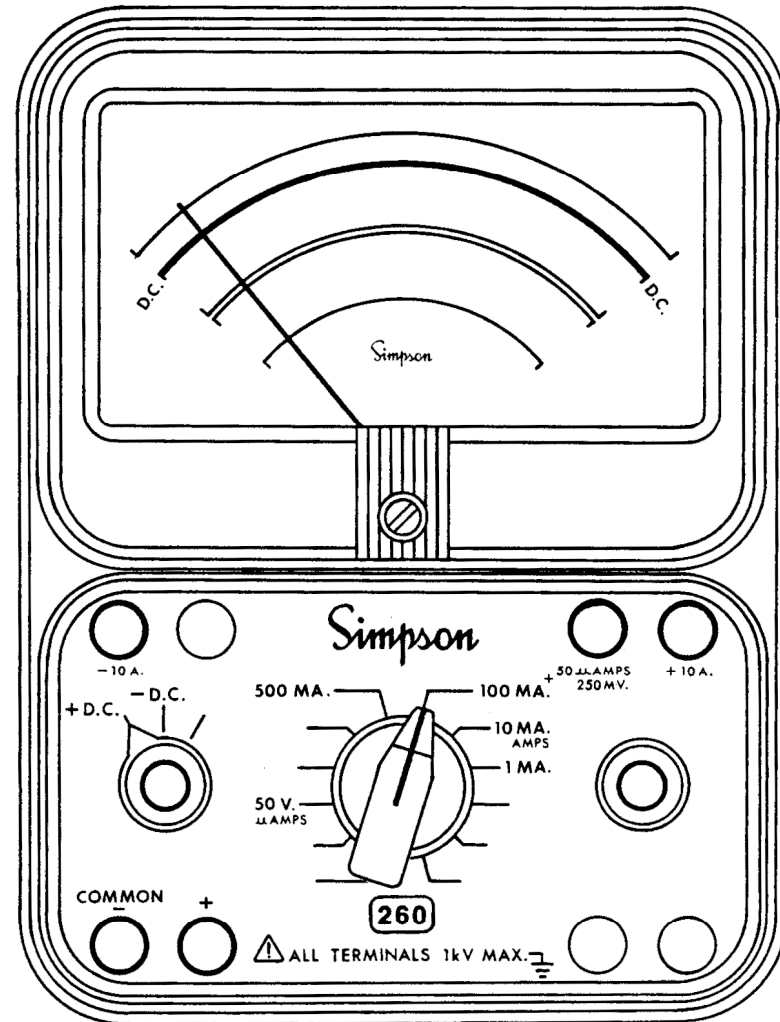

FIGURE 4-7. JACKS AND SWITCH POSITIONS
- a. Set the function switch at +DC (Figure 4-7).